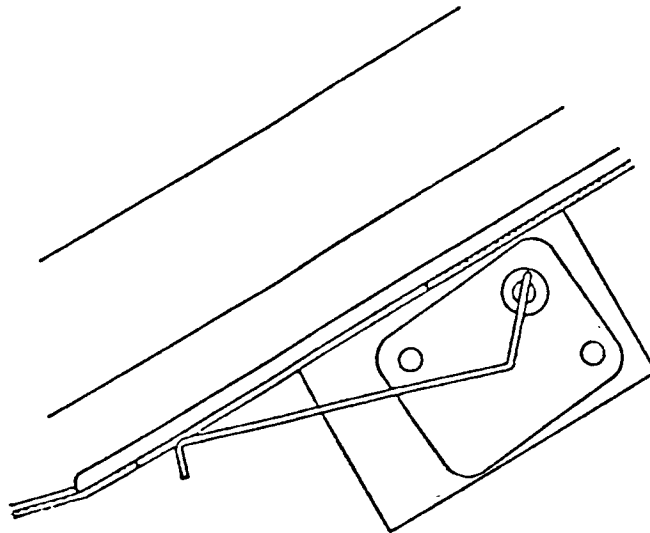

Fig. 7-2
1. When the actuator is pressed in the maximum range, the tip of actuator should go under the film guide surface as illustrated in Fig. 7-2. (However, it is desirable the distance from the guide surface is as minimum as possible.)